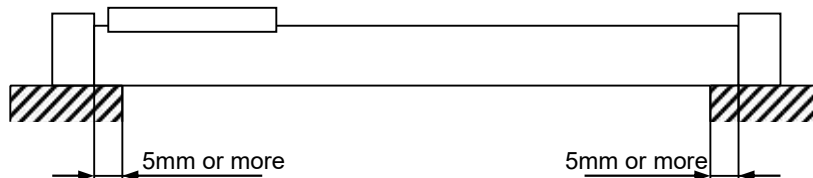

Fig. 3
- When holding the product using the end plates at the both ends, secure mounting surfaces of 5mm or more on the bottom side at the both ends of the cylinder. (See Fig. 3)